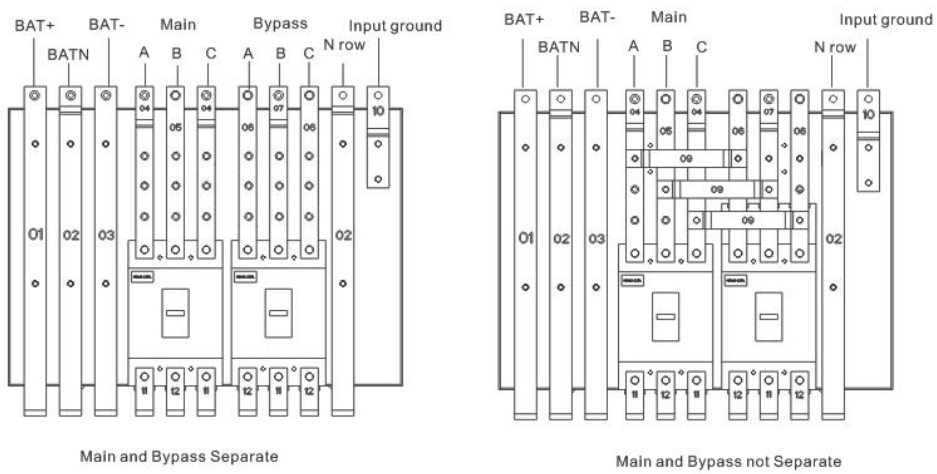

图 2.15 Input Wiring Boards of 160KVA System
2. Connect the mains input line, bypass input line, and battery input line with UPS connection terminals through input and output line channels of cabinet according to phase order shown in figure 2.15.